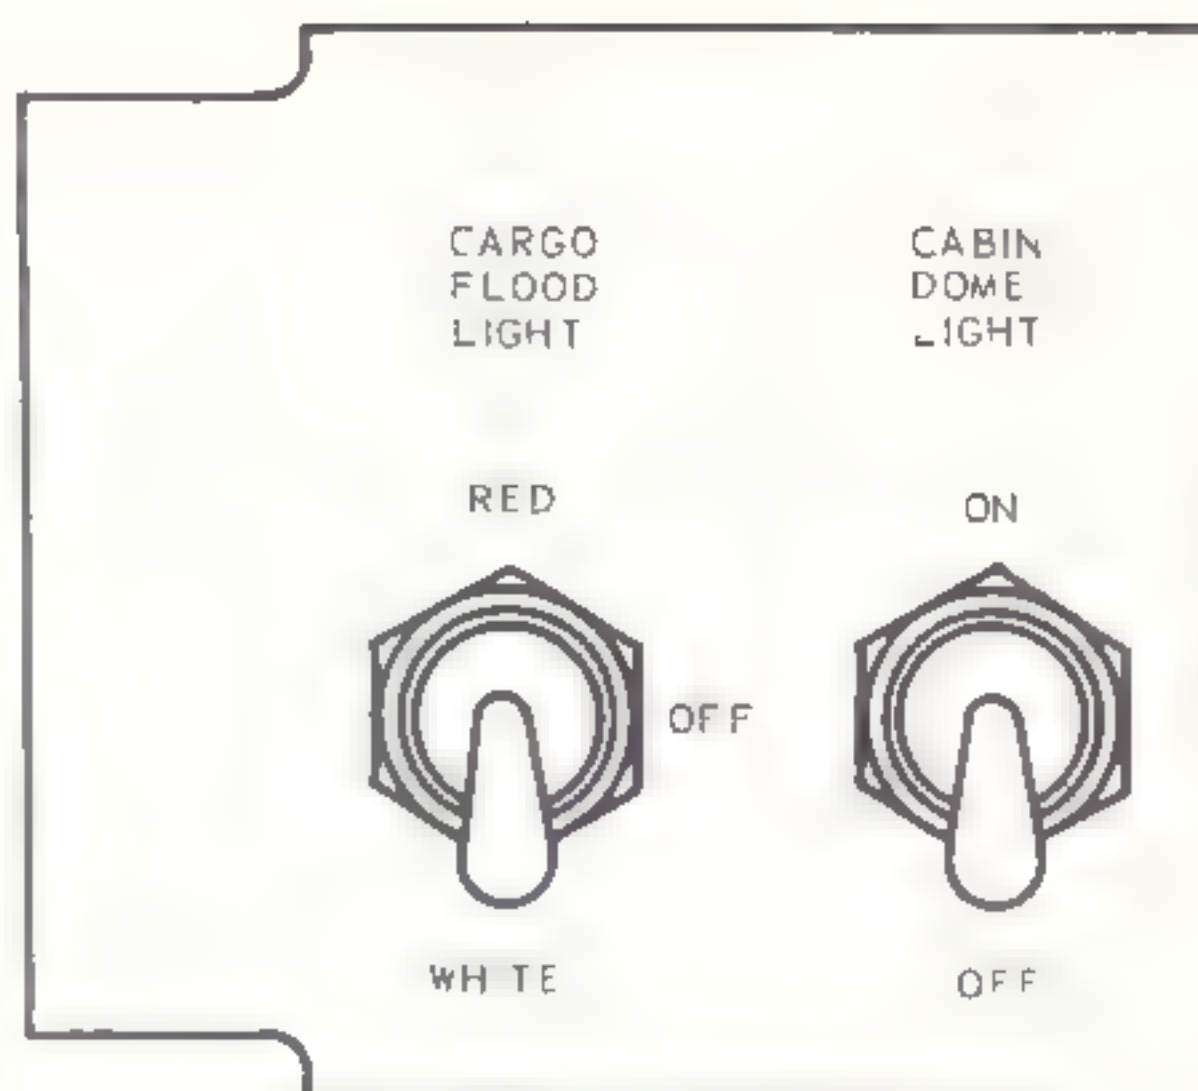
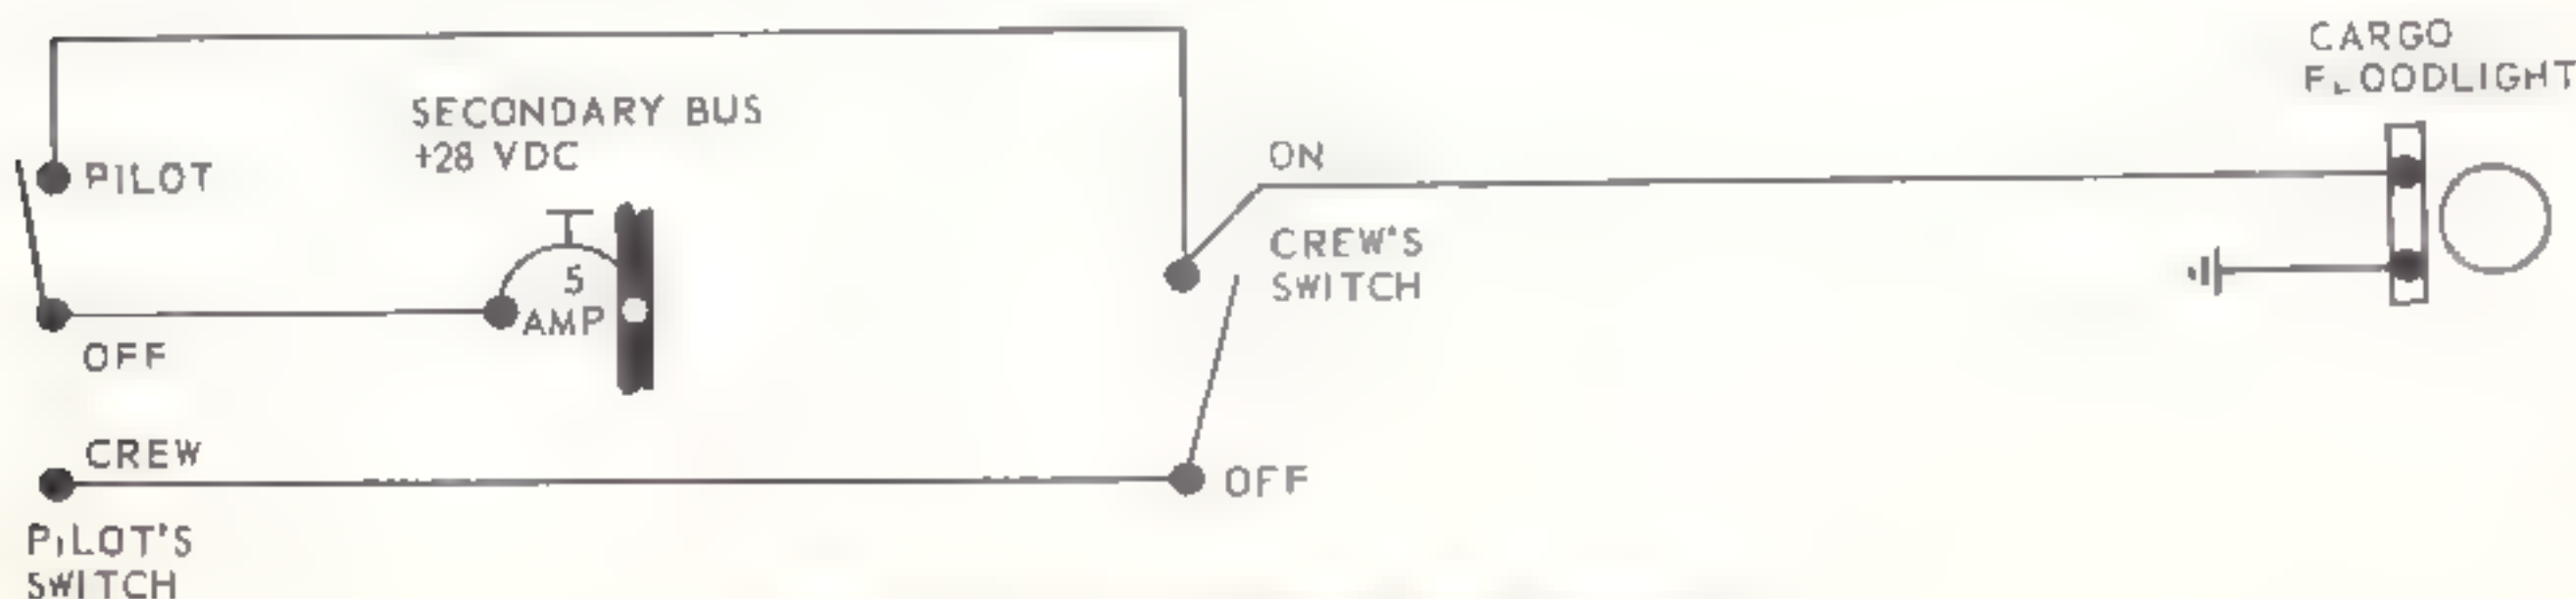
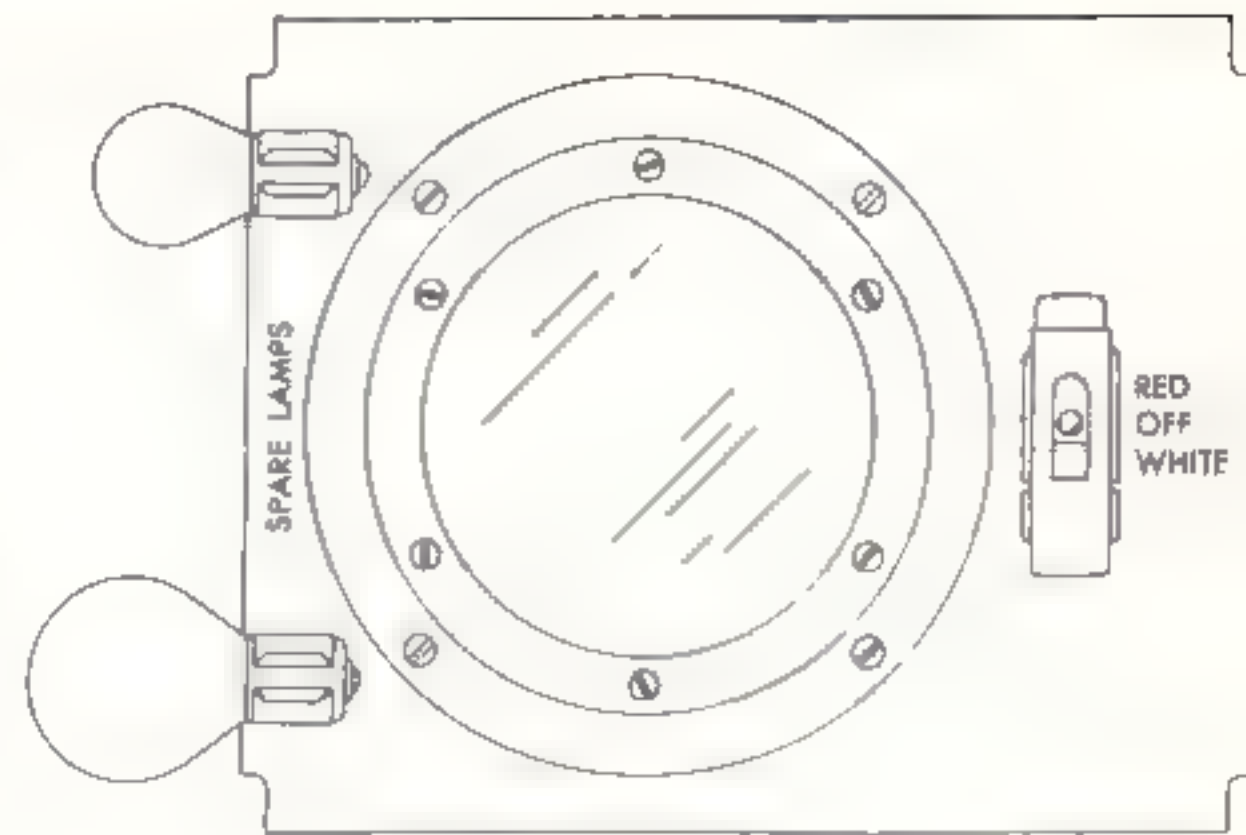

Figure 12-23. Cabin dome lights and cargo floodlight switches
Figure 12-24. Cargo floodlight (typical simplified circuit)
Figure 12-26. Electronics compartment dome light
12-49. *Cargo Floodlight.* The cargo floodlight (21, figure 12-18) is mounted on the fuselage below and aft of the cargo door and provides illumination for pickup and release of cargo during night operations. The cargo floodlight is operated by either one or two switches, one for the pilot and one for the crew. The pilot's switch, marked CARGO FLD LT, is located on the overhead switch panel of the overhead control panel (figure 12-12, 12-13, or 12-14) and has three positions, marked CREW, OFF, and PILOT. The crew switch, marked CARGO FLOOD LIGHT, is located on the right side of the cabin above the cargo door and has two positions, marked ON and OFF. The crew switch is on the same panel with the cabin dome light switch. (See figure 12-23.) The crew switch is inoperative unless the pilot's switch is in the CREW position. (See figure 12-24.) The pilot may operate the cargo
12-52. Dome Lights. Dome lights (5, 10, 11, and 13, figure 12-18) are provided for general interior lighting and are located as follows: One in the cockpit, two in the cabin, and one in the electronics compartment. The dome lights contain both a white and red lamp and are controlled by switches, marked RED - OFF - WHITE. The cockpit dome light switch, marked DOME LT, is located on the cockpit dome light panel (6, figure 12-1 or 7, figure 12-2) adjacent to the cockpit dome light. The cabin dome lights switch, marked CABIN DOME LIGHTS, is located inside cabin above cargo door adjacent to the CARGO FLOOD LIGHT switch (figure 12-23). The electronics compartment dome light switch is located on the dome light support, and spare lamps (red and white) are provided in clip holders on the electronics compartment dome light panel (figure 12-26). On helicopters serial No. prior to 56-4313, the cockpit dome light (5, figure 12-18) operates from the battery supply circuit through CKPT DOME LTS circuit breaker on battery bus circuit breaker box (13, figure 12-1) in the electronics compartment. On helicopters serial No. 56-4313 and subsequent, the cockpit dome light operates from battery supply circuit through the CKPT DOME LTS circuit breaker on the fuse and circuit breaker panel (5, figure 12-7) located in the battery box. The cabin dome lights (10 and 11, figure 12-18) and electronics compartment dome light (13) operate from the secondary supply circuit through CABIN DOME LTS circuit breaker located on the fuse and circuit breaker panel of the overhead control panel (figure 12-12, 12-13, or 12-14).
a. *Removal.* (1) Place BATT switch in OFF position and disconnect external power source from external power receptacle.
(2) Pull out CABIN DOME LTS circuit breaker located on fuse and circuit breaker panel (5, figure